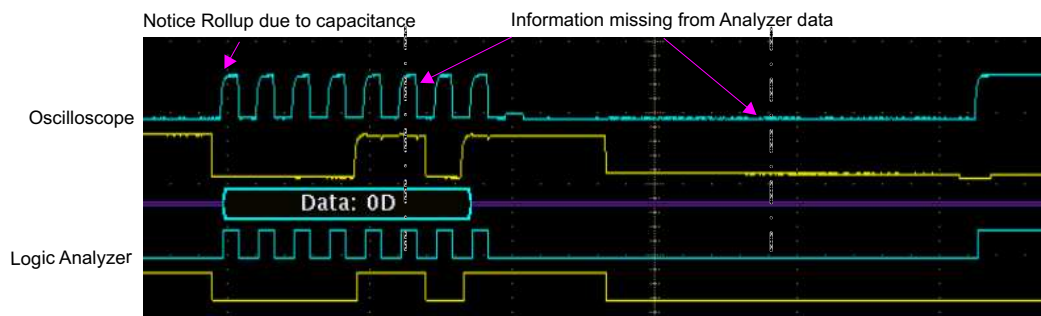

Figure 4. Oscilloscope Versus Logic Analyzer Comparison
1. A logic analyzer only shows a vague or high level piece of what is actually on the bus (see Figure 4). A logic analyzer shows only transitions, not rise times, noise, or any other electrical aspects of the bus. It is necessary to see all the information when troubleshooting. A logic analyzer is a fine tool to see what is happening on a bus that has no issues. However, when working with critical communication failures, more detail is required than is available from a logic analyzer.